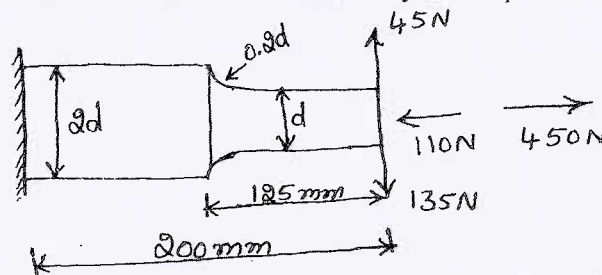

Fig.Q3(b)
b. A steel cantilever member shown in Fig.Q3(b) is subjected to a transverse load at its end that varies from 45 N up to 135 N down as an axial load varies from 110 N compression to 450 N tension. Determine the required diameter at the change of section for infinite life using a factor of safety of 2. The strength properties of the material are  $\sigma_u = 550$  MPa,  $\sigma_y = 470$  MPa and  $\sigma_{-1} = 275$  MPa. Notch sensitivity index  $q = 1$ .